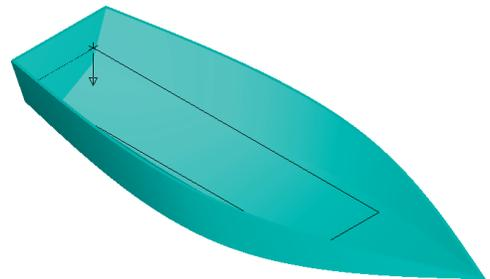

Fig. 3
- Step 7. The direction arrow the chain should **point down**, **Fig. 3**. If the arrow points in the wrong direction, click Reverse It.